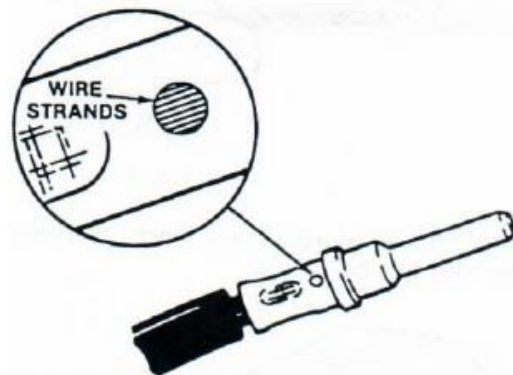

Figure 155
17. Put the stripped end of the wire into the contact. Make sure that all the strands of wire are inside the contact. Make sure that you can see the strands of wire the hole in the side of the contact. Figure 155
19. Make sure all of the wire strands are inside the crimped contact. Look through the hole in the side of the contact for the wire strands. Figure 155